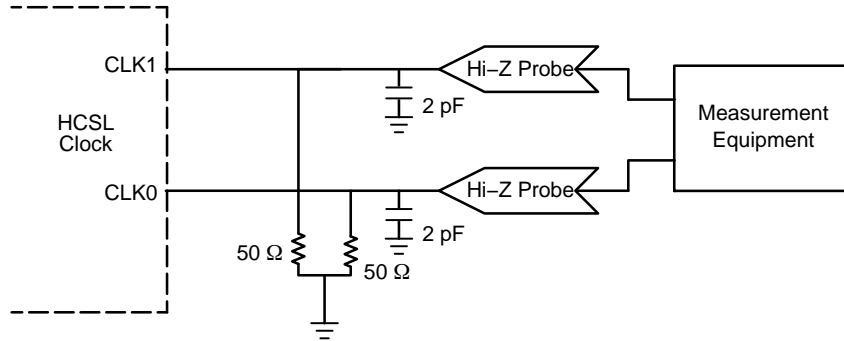

Figure 8. HCSL Parameter Measurement
8. Measurement taken with outputs terminated with $R_S = 0\ \Omega$, $R_L = 50\ \Omega$, with test load capacitance of 2 pF. See Figure 8. Guaranteed by characterization.